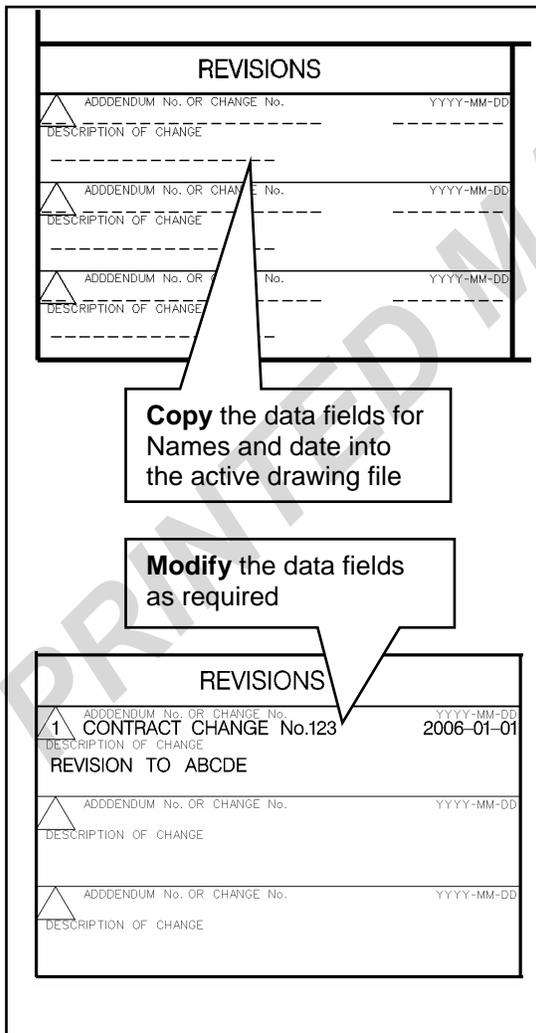

Figure 21 – Revision Box
- **modify** the copied data fields as required. (See Figure 21)